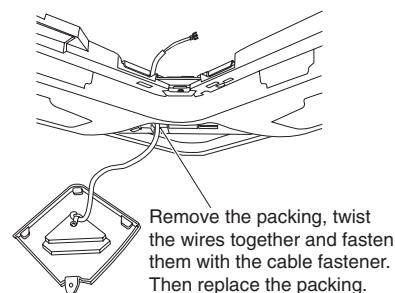

Fig. 3-3
- (3) The square hole used for the panel wiring is filled with packing (sponge material) used for insulation.\* Remove the packing, then pass the wiring from the wireless receiver unit through the grill. Twist the wires together and use a cable fastener to fasten them and fix with screw, then replace the packing in the hole as it was before. (Fig. 3-3)
- (4) After completing wiring as described in "Wiring the Receiver Unit" on the next page, twist the wires together and use a cable fastener to fasten them, leaving a length of wiring that is long enough to permit removal of the adjustable corner cap. (Fig. 3-3)